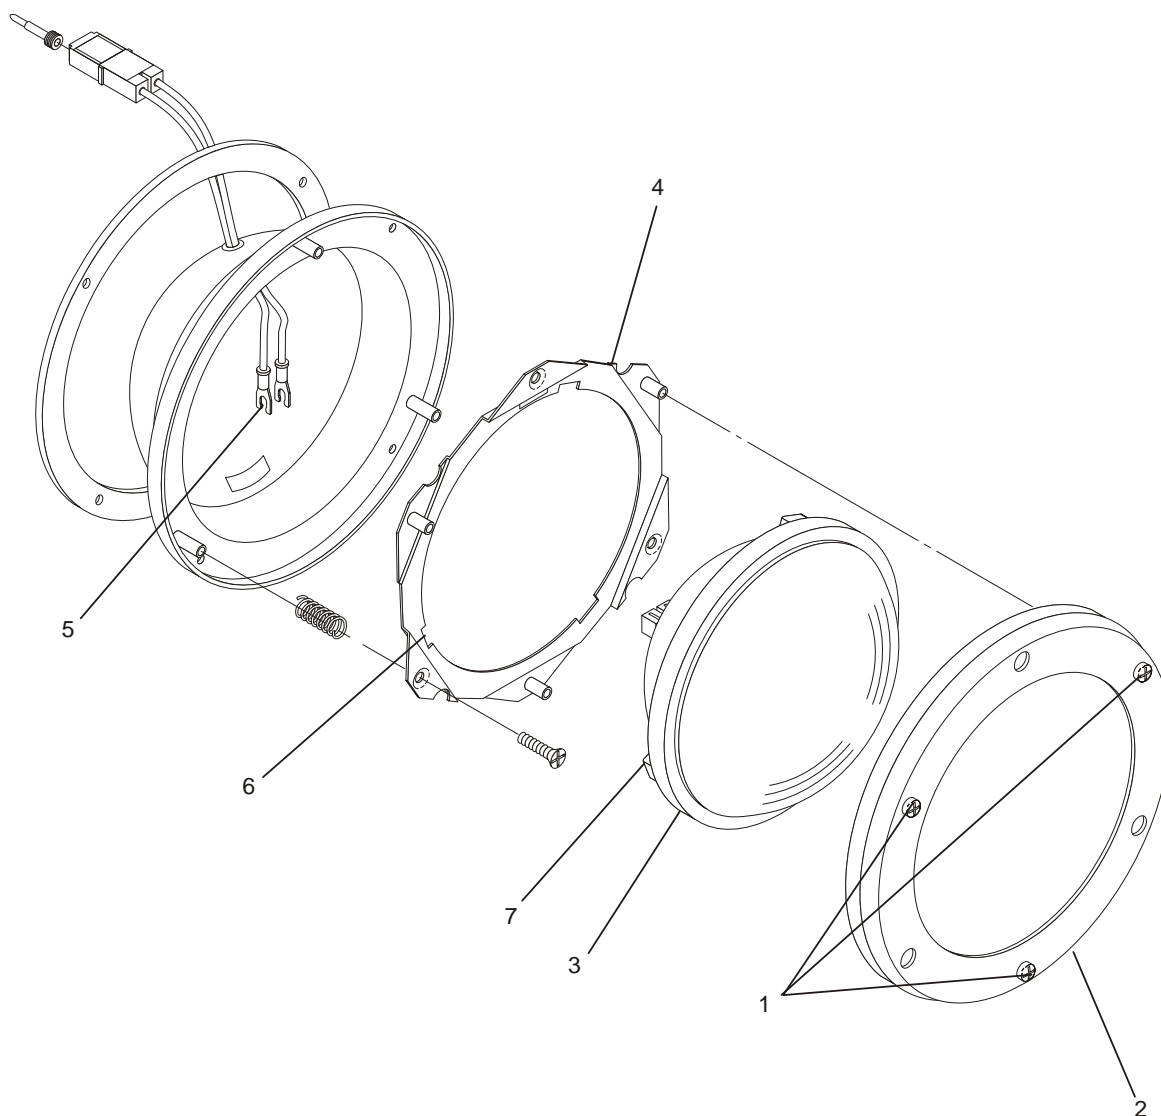

Figure 7-8: Replace Roof Headlight
2. Remove three 10-32 catch screws (1, Figure 7-8) from the bezel (2).
3. Partially remove the lamp (3) from the ring assembly (4) and disconnect the two spade terminals (5) from the back of the lamp (3).
4. Remove the lamp (3).
5. Attach the two spade terminals (5) to the back of the replacement lamp (3).
6. Align the notches (6) on the ring assembly (4) to the protrusions (7) on the lamp (3).
7. Install the bezel (2) using three 10-32 catch screws (1).